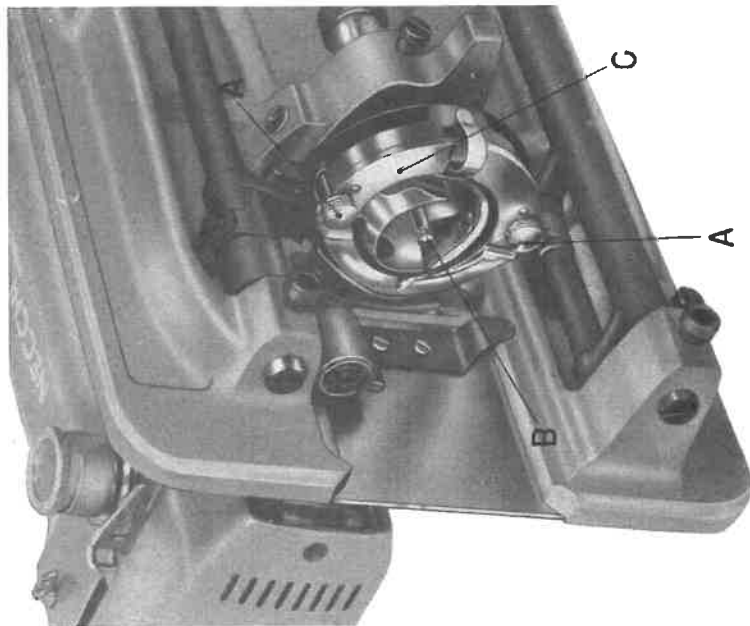

Fig. 20
- d) push the two knurled snap pins "A" outward (Fig. 20) thus releasing the race cover plate "C";
Thread clogging shuttle bed.	Remove thread from shuttle bed as per instructions on page 15, Fig. 20.